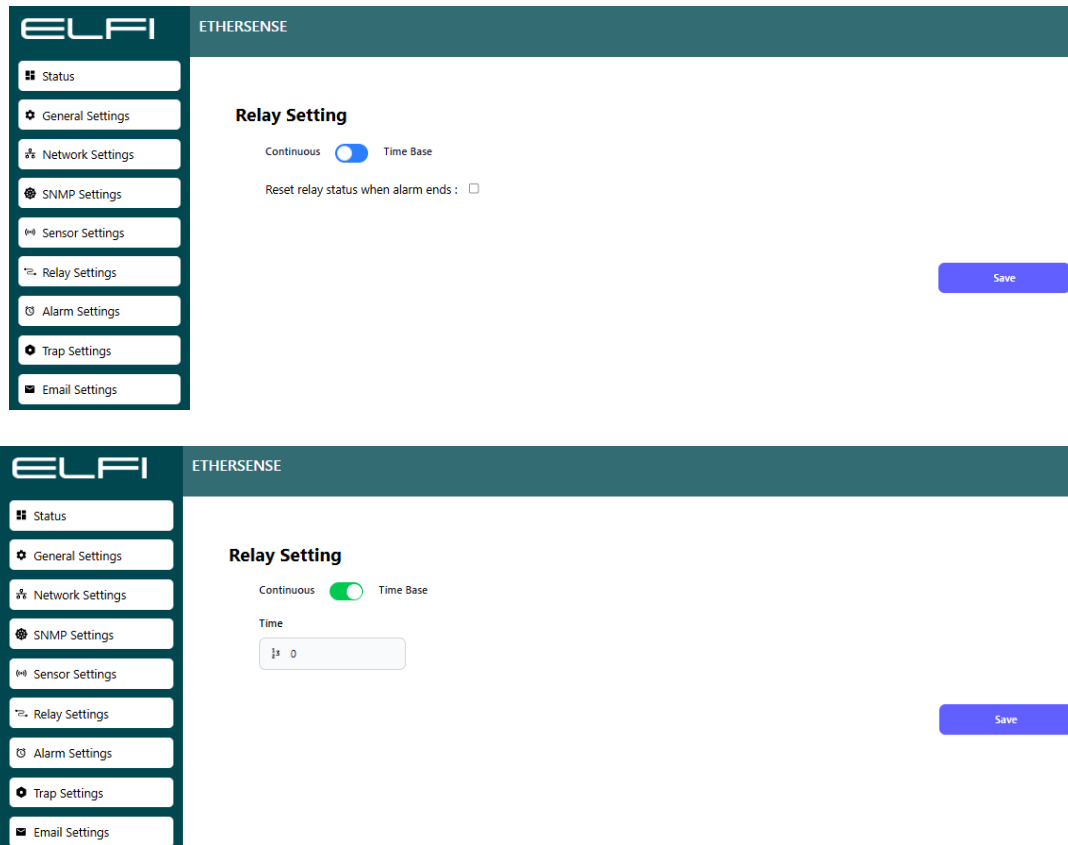

Figure 11: detector “Relay Settings” Menu
- **Continuous mode:** If Continuous mode is selected, once the relay is triggered, connected devices—such as alarms, cooling systems, etc.—will remain active until the detector exits the alarm state. Additionally, in Continuous mode, if the option “Reset relay status when alarm ends” is enabled, the relay will automatically return to its previous state when the alarm condition ends (e.g., the alarm will be turned off). (See Figure 11)